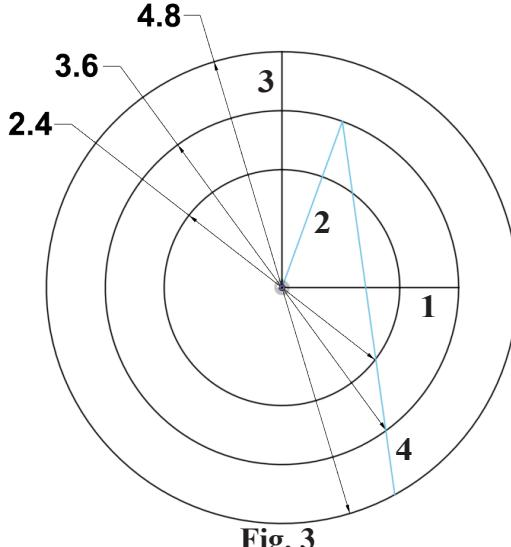
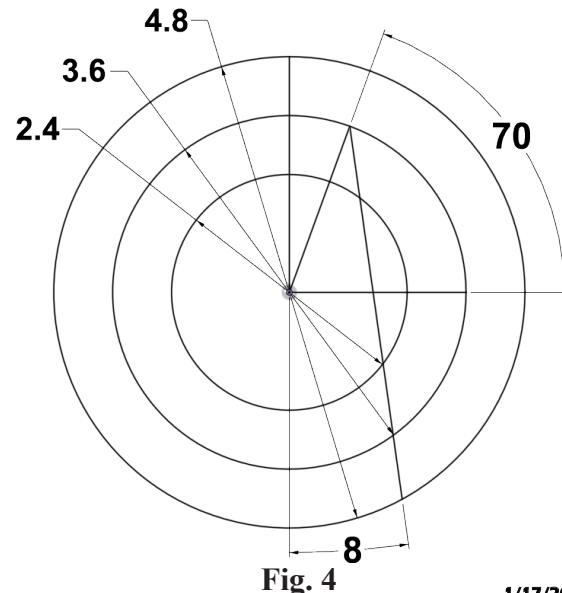

Fig. 3
Fig. 4
Step 1. Click **Line** (L) on the toolbar.
Step 2. Starting from the Origin sketch **two radii** out to the middle circle, keep **one horizontal** (1) and the other **at angle** (2). Sketch a vertical radii to outer circle (3). Sketch a line at angle from endpoint of radii to outer circle (4), Fig. 3.
Step 3. Click **Dimension** (D) on the toolbar.
Step 4. Dimension angles 70° and 8° , Fig. 4.